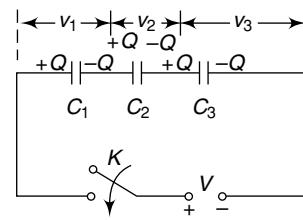

Fig. 1.14 Capacitors in series connection
(a) *Capacitors in Series* Let us assume three capacitors of capacitances (C_1), (C_2) and (C_3) are connected in series across a dc supply of potential difference (V) through a switch K (Fig. 1.14). On closing the switch, the capacitors get charged and at steady state the p.d. across (C_1), (C_2) and (C_3) are (V_1), (V_2) and (V_3) respectively while the charge in each capacitor is (Q) (since the capacitors are connected in series, same charging current would flow resulting in accumulation of charge (Q) in each capacitor).